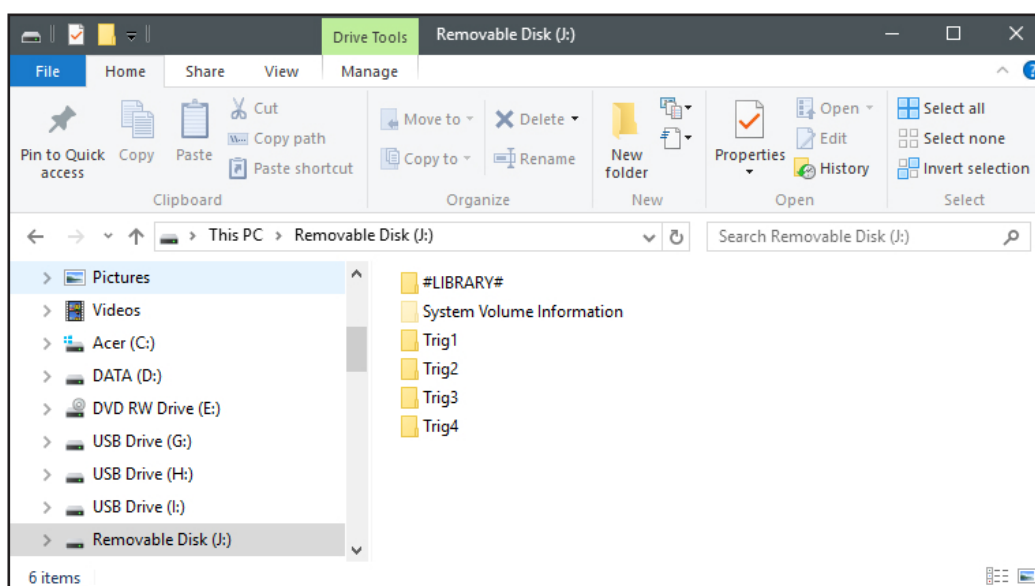

Fig 4
**Step 3:** Open the Removable Disk and you should get a window that looks like figure 4.